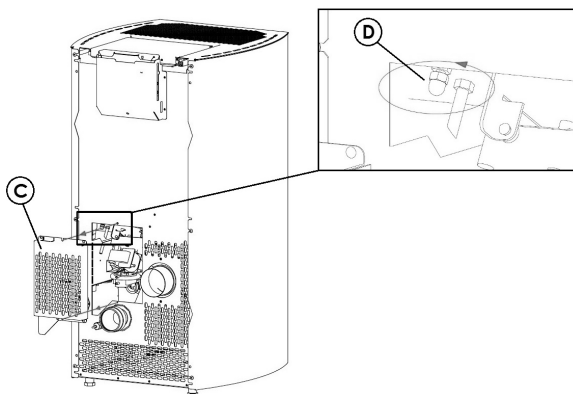

Fig. 46 - Casing removal
- Remove inspection casing "C" from the back of the stove (see **Fig. 46**).